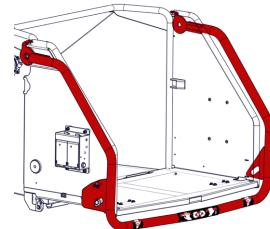

Figure 13 - Red Safety Bar
5. Press the Red Safety Bar (Figure 13).